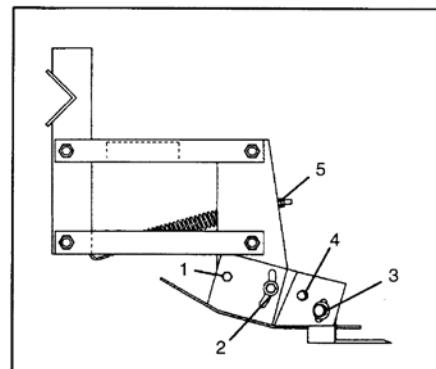

Figure 36a. Knife Scalper (Down Pressure)
- a. Loosen bolts (1) and (2), Figures 36a & 36b..
- a. Loosen bolts (3) and (4), Figures 36a & 36b.
- a. Increase spring tension to decrease skipping (5).
- a. Increase spring tension for less pressure on shoe (5).